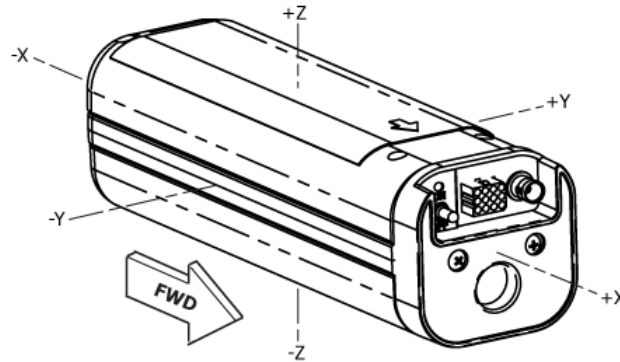

Figure 25 ELT Orthogonal Axes
- 1) Artex recommends installation of the C406-1HM ELT in helicopters. The C406-1HM ELT is equipped with a 5-axis G-switch module in addition to the usual primary G-switch, which is oriented to the direction of flight. See Figure 25.